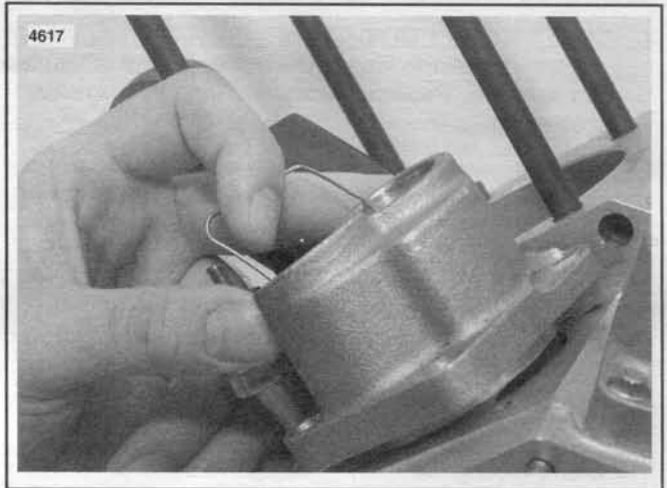

Figure 3-48. Remove Lifter and Guide Assembly
4. See Figure 3-48. To remove the lifters and guides together, fashion a U-shaped wire from a large paper clip. Insert the ends into the lifters and tilt the guide and lifters out together.